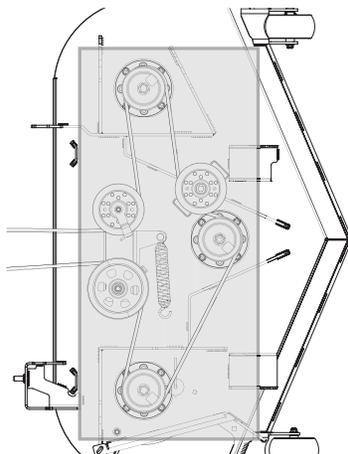

Figure 37
- Clean the top of the mower deck, under the spindle covers and belt area. See Figure 37.